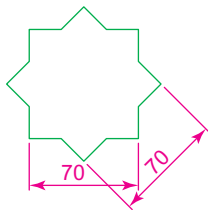

Fig. 14.10 Example – 3D Array – the star pline
1. Construct the star-shaped pline on a layer colour **green** (Fig. 14.10) and extrude it to a height of **20**.